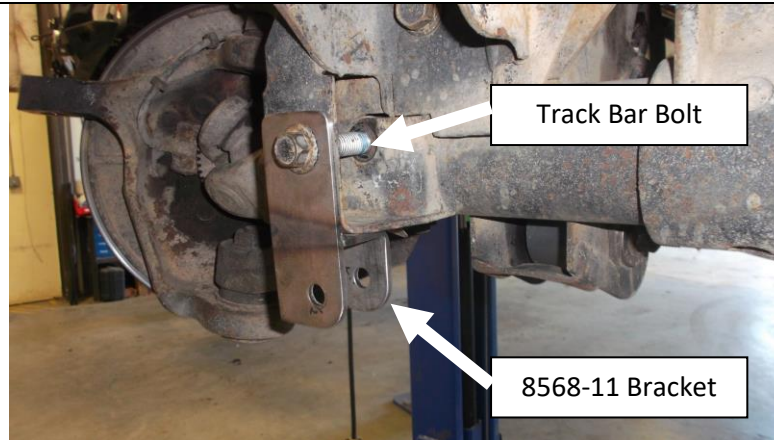

Figure 8. 8568-11 Steering Stabilizer Bracket Installed
- 11) Install 8568-11 Stabilizer Bracket as shown. Re-install axle side track bar bolt as shown below to align. See **Figure 8**.